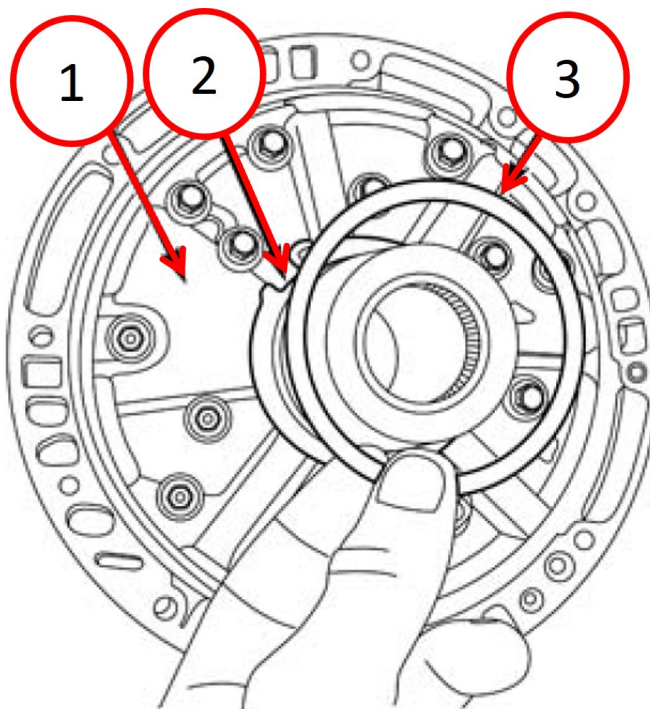

Fig. 12
16. Lubricate with trans jel or petroleum jelly and install K2 thrust bearing number three Fig. 12.
22. Lubricate with trans jel or petroleum jelly and install the nylon thrust washer onto the oil pump Fig. 12.
NOTE: The nylon thrust washer is keyed to the oil pump Fig. 12.
NOTE: Two pin punches inserted through the oil pump mounting holes will aid in the installation of the oil pump Fig. 12.